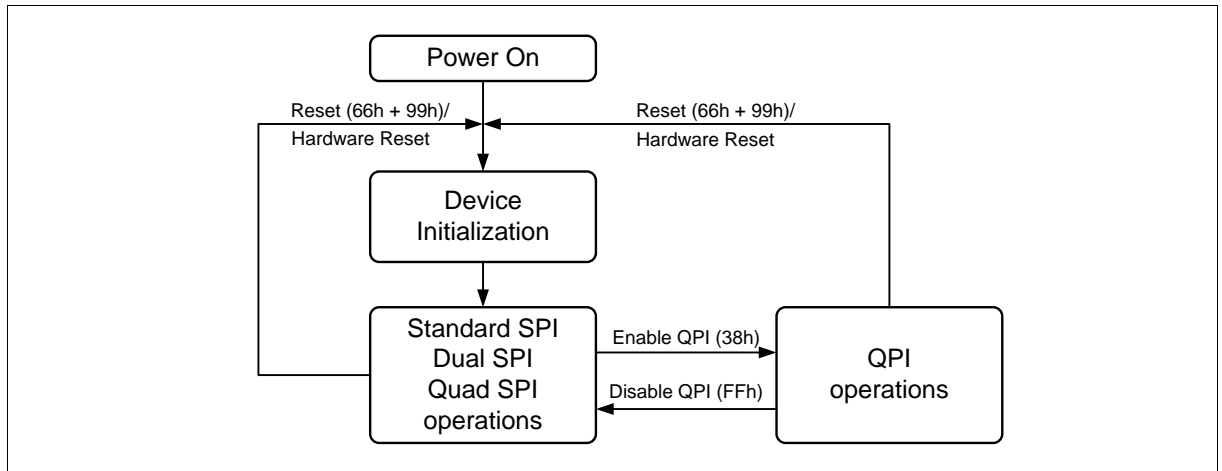

Figure 5 FM25Q128A Serial Flash Memory Operation Diagram
The FM25Q128A supports Quad Peripheral Interface (QPI) operations only when the device is switched from Standard/Dual/Quad SPI mode to QPI mode using the “Enable QPI (38h)” instruction. The typical SPI protocol requires that the byte-long instruction code being shifted into the device only via DI pin in eight serial clocks. The QPI mode utilizes all four DQ pins to input the instruction code, thus only two serial clocks are required. This can significantly reduce the SPI instruction overhead and improve system performance in an XIP environment. Standard/Dual/Quad SPI mode and QPI mode are exclusive. Only one mode can be active at any given time. “Enable QPI (38h)” and “Disable QPI (FFh)” instructions are used to switch between these two modes. Upon power-up or after a software reset using “Reset (99h)” instruction or hardware reset, the default state of the device is Standard/Dual/Quad SPI mode. To enable QPI mode, the non-volatile Quad Enable bit (QE) in Status Register-2 is required to be set. When using QPI instructions, the DI and DO pins become bidirectional DQ₀ and DQ₁, and the WP# and HOLD# pins become DQ₂ and DQ₃ respectively. See Figure 5 for the device operation modes.